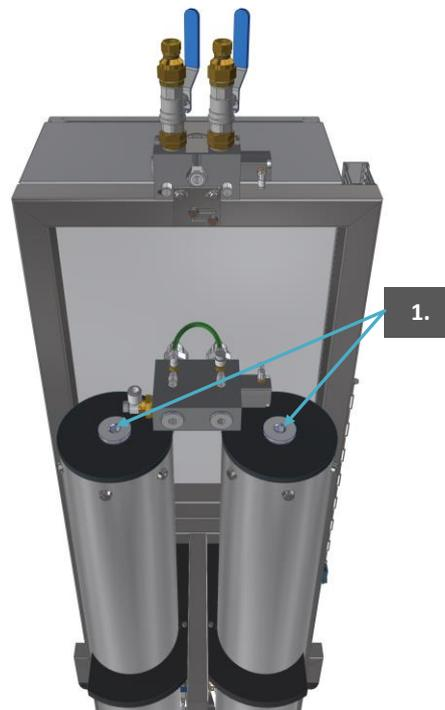

Figure 26. Spindles
1. Remove the blanking plug (Figure 26 no. 1) at the top of the PSA with a 12mm hex key.